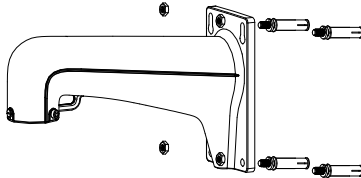

Figure 2-7 Secure the Bracket
- The bracket in Figure 2-7 is the recommended bracket for this series of speed dome, and a pendant adapter is required if any other bracket is selected. The dimension of pendant adapter is  $G1\frac{1}{2}$ .